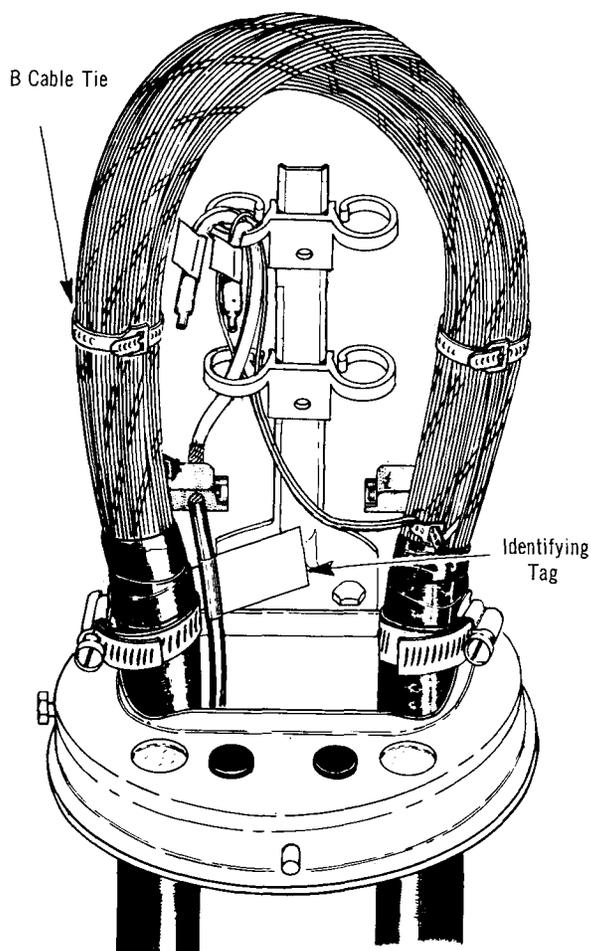

Fig. 3 — Underground Wire in B Cable Closure
2.07 Skin the insulation from the underground wire for about 1-inch and connect cable pair to underground wire using B Wire Connectors. After the splice is made, the end of the connector and the wire should be wrapped with a short piece of vinyl tape to insulate the bare conductor. A completed installation is shown in Fig. 3.